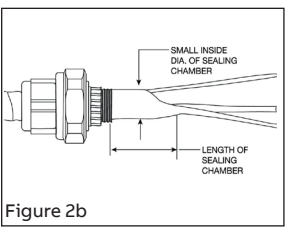

Figure 2b
- 3b Apply small portion of sealing compound in the middle of insulated and between individual strands of uninsulated grounding conductor. Bring conductors back together and apply sealing compound all around conductors. Build up compound approximately equal to the small inside diameter of the sealing chamber. Length of compound plug should be approximately equal to the length of the sealing chamber (Figure 2b).